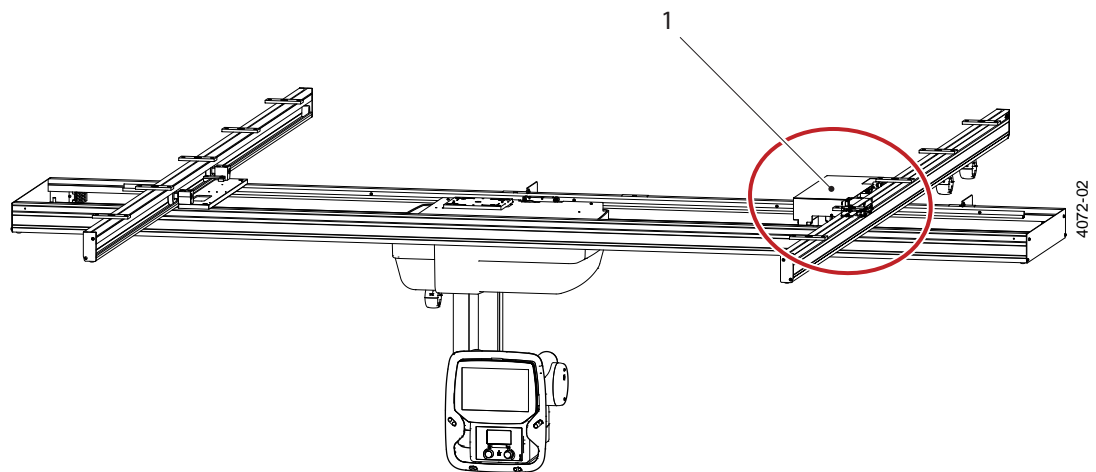

Fig. 4-16 Mounting position of drive unit (1)
The drive unit, (pos. 1) must be mounted at the right side of the traverse, see Fig. 4-16 Mounting position of drive unit (1).